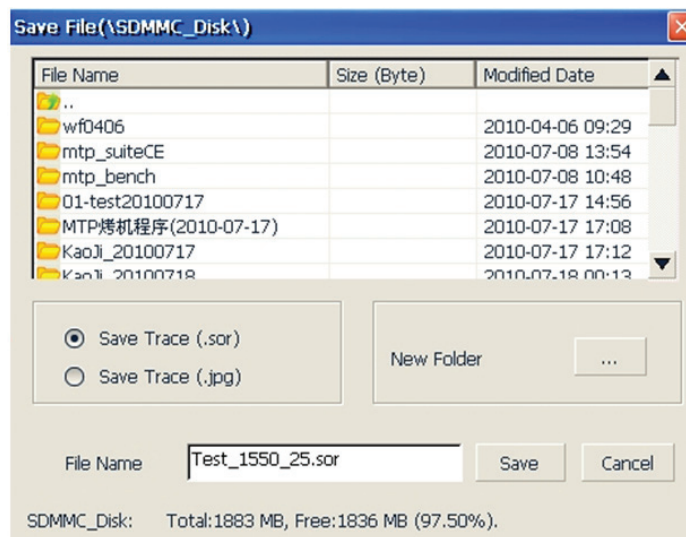

Fig 7.2 Save dialog window
The [Save File] dialog window and options are shown below. (See Fig 7.2)
- The title bar will always show the current folder path, as shown in Fig 7.2: “\SDMMC\_DISK\”.